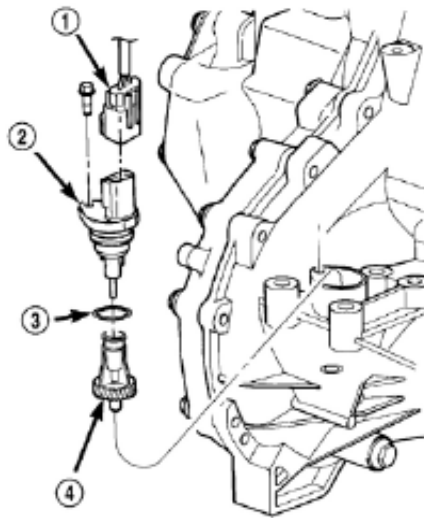

Figure 3-163 Speed Sensor -Disassembly/Assembly
- (1) Lift up the vehicle.
- (2) Remove the speed sensor joint (Figure 3-163).
(3) screw off the fixing bolt for speed sensor (Figure 3-163).
(4) Remove the speed sensor from transaxle.
(1) Fix the pinion on speed sensor (Figure 3-163).
(2) Replace the O-RING with a new one and mount the speed sensor on the speed drive axle (Figure 3-163).
(3) Screw on bolt at tightening torque 7Nm (60 in. lbs.).
(4) Plug in the speed sensor connector (Figure 3-163).
(5) Lay down the vehicle and perform road test to verify function of speed meter.